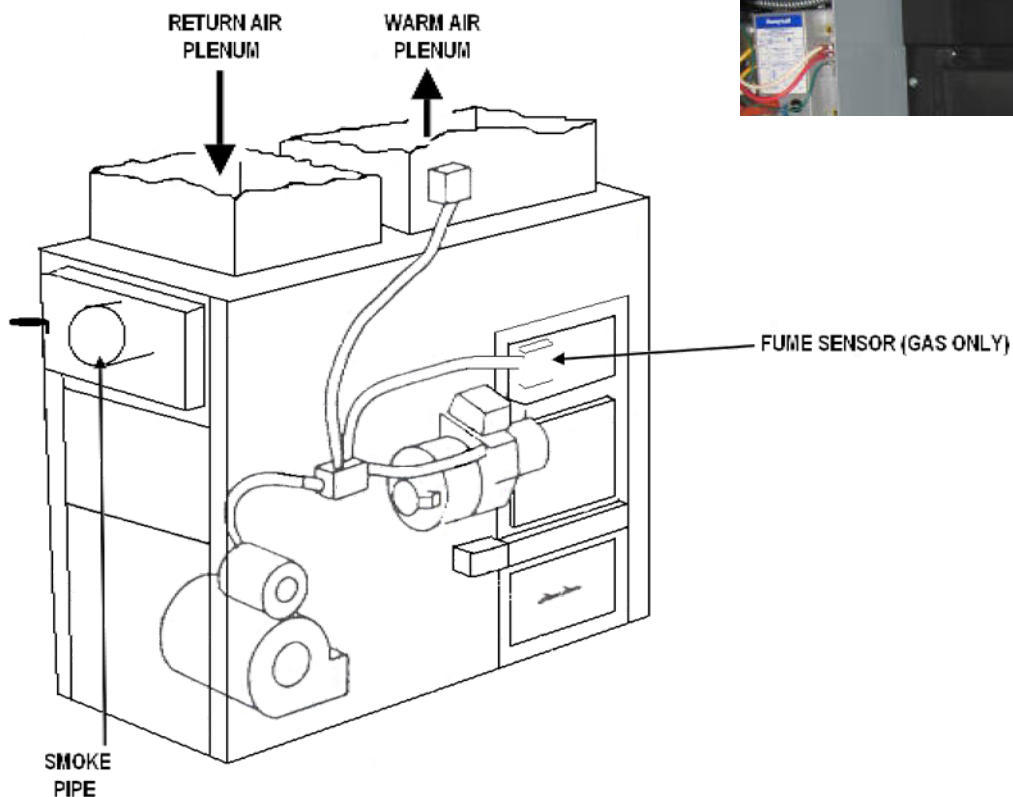

FIG. 20
1. Screw fume sensor into threaded hole located in secondary air intake cover. See Fig. 20.